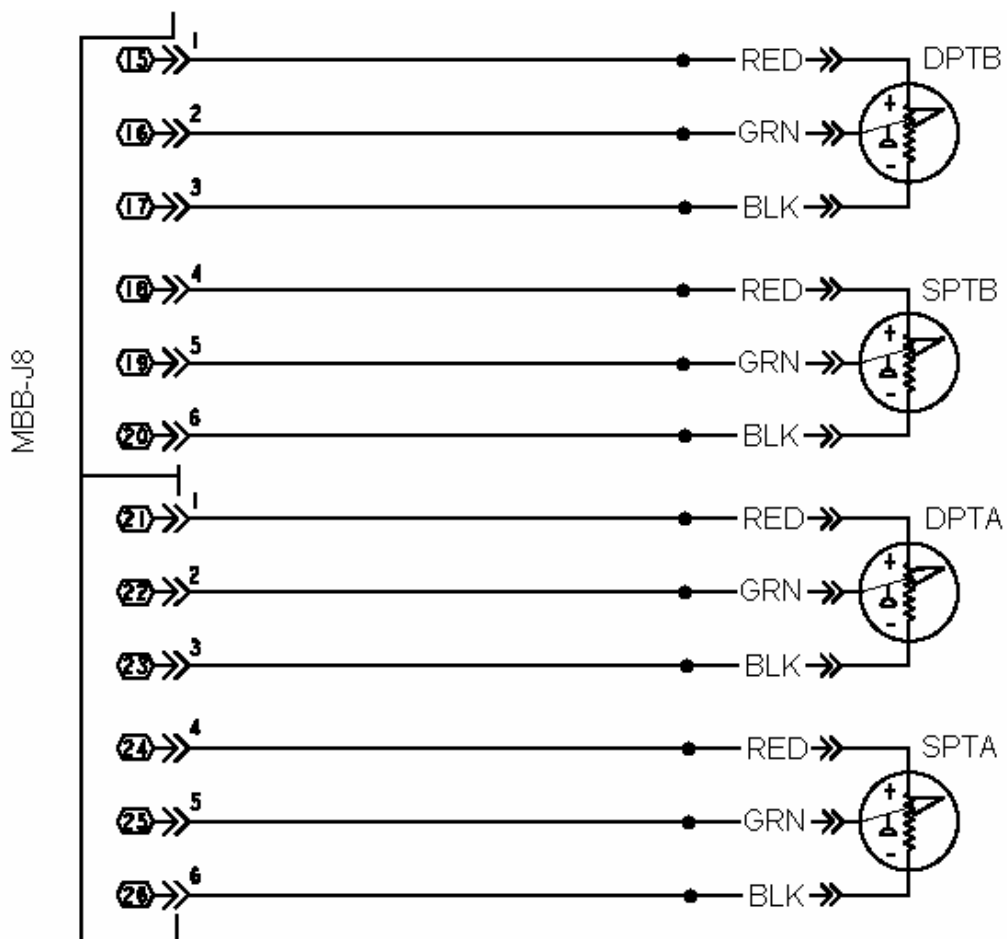

Figure 19 - MBB Transducer Wiring
12. Using the Paladin Tool Crimper, connect trifurcated terminals from the Board Connector Kit, 32MP660023 on to the wires routed from the junction box. Install the terminals into the 12 pin board connector located in the Board Connector Kit, 32MP660023. Be sure to install the wires/pins in the correct order as shown in Figure 19.